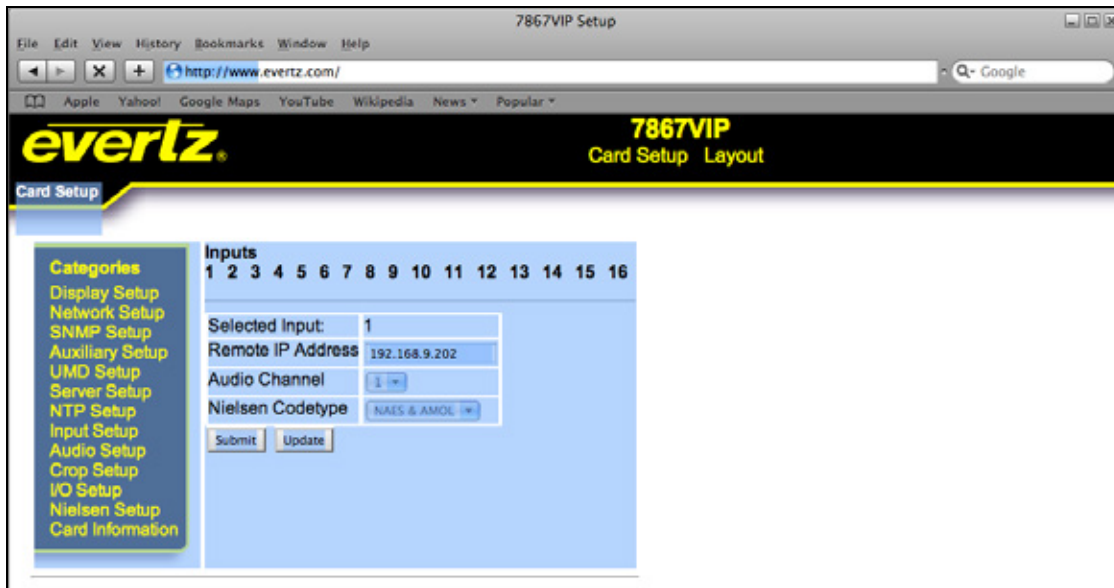

Figure 8-1: VIPA Configuration Page
2. The VIPA will serve back a configuration page (see Figure 8-1). Select the Nielsen setup category from the list.